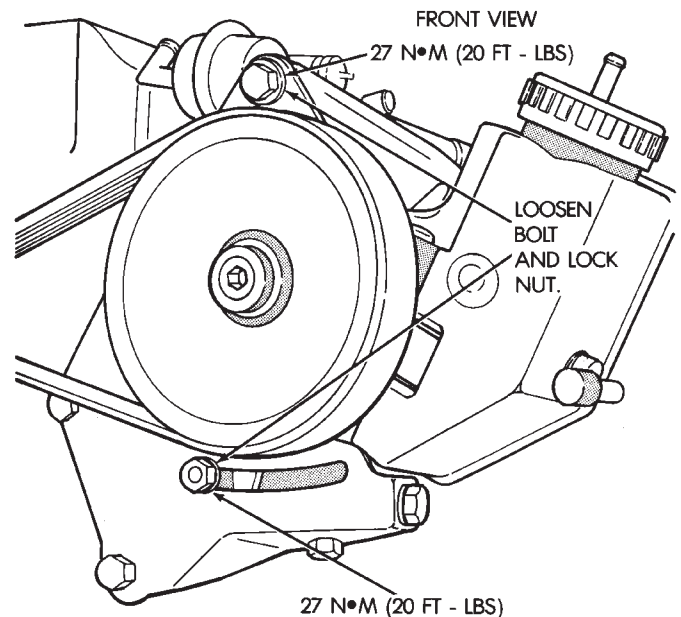
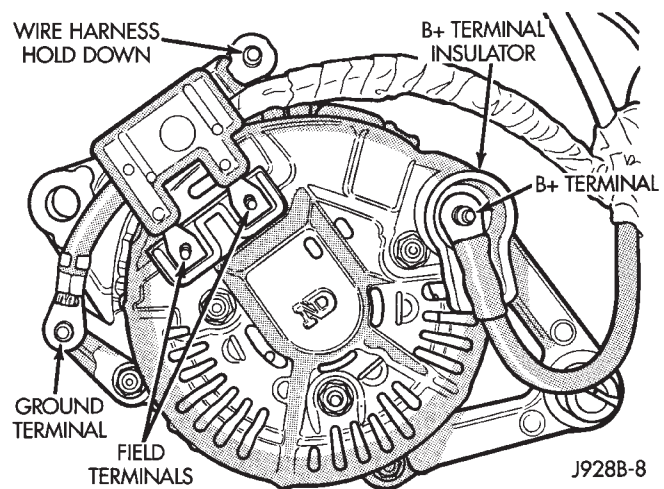

Fig. 2 P.S Pump Front Mounting Bolts
Fig. 3 Remove or Install Connector Assembly
- (3) Loosen power steering pump pivot bolt and lock nut (Fig. 2).
- (4) Loosen adjusting bolt to remove belt.
- (5) Raise and support vehicle.
- (6) Remove B+ terminal nut, 2 field terminal nuts, ground and harness hold down nuts (Fig. 3). Remove wire connector assembly.
- (7) Remove 2 generator mounting bolts and remove generator from vehicle.
- (8) Install generator with two mounting bolts. Torque bolts to 55 N•m (41 ft. lbs.).
- (9) Attach generator wires.